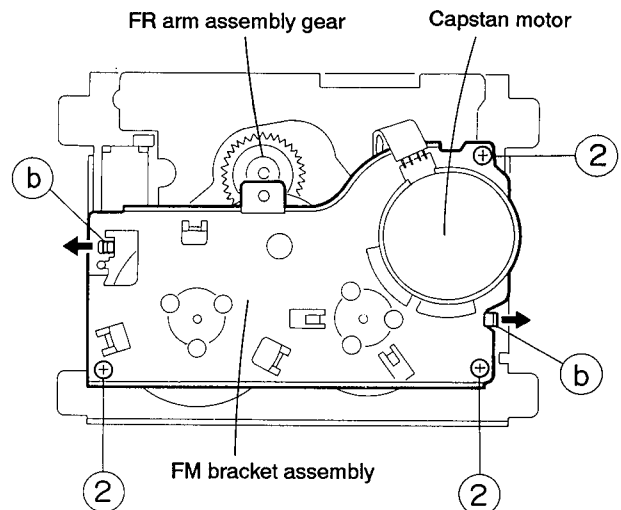

Fig. 5-42
(See Figs. 5-42~5-44)
1. Remove the three screws ② retaining the FM bracket assembly (See Fig. 5-42).
2. While opening the two engagements ⑥ fixing the FM bracket assembly to outside, remove the bracket assembly (See Fig. 5-42).
(See Fig. 5-42~5-44)